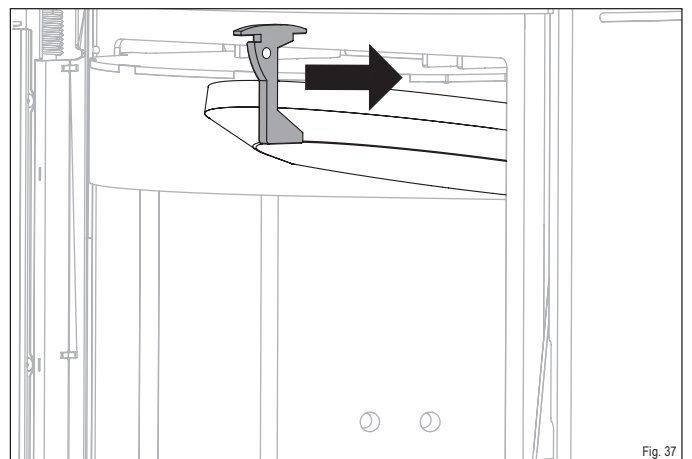

Fig. 37
- ▶ Slide the firebrick retainer forward (Fig. 37).